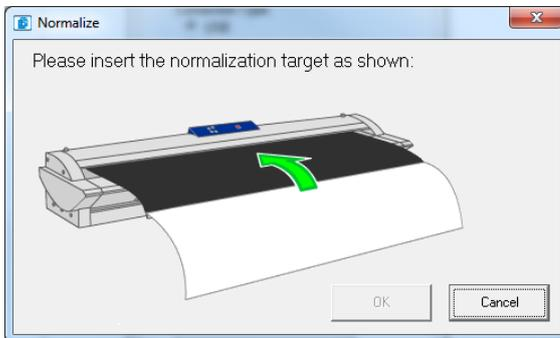

Fig 3-20
3. Follow the onscreen instructions for Normalise (Fig 3-20) and close the window when complete.